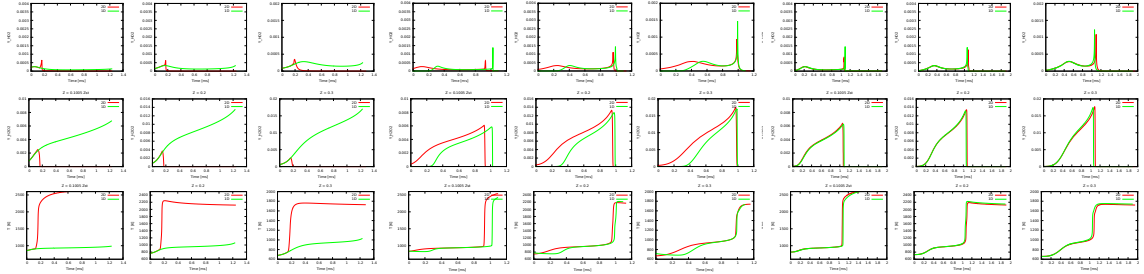

Figure 2: 2.4, 3.2, and 8.0 m/s.
- LFA-CFD comparison to demonstrate the system response and the stabilization mechanism. Fig. 2